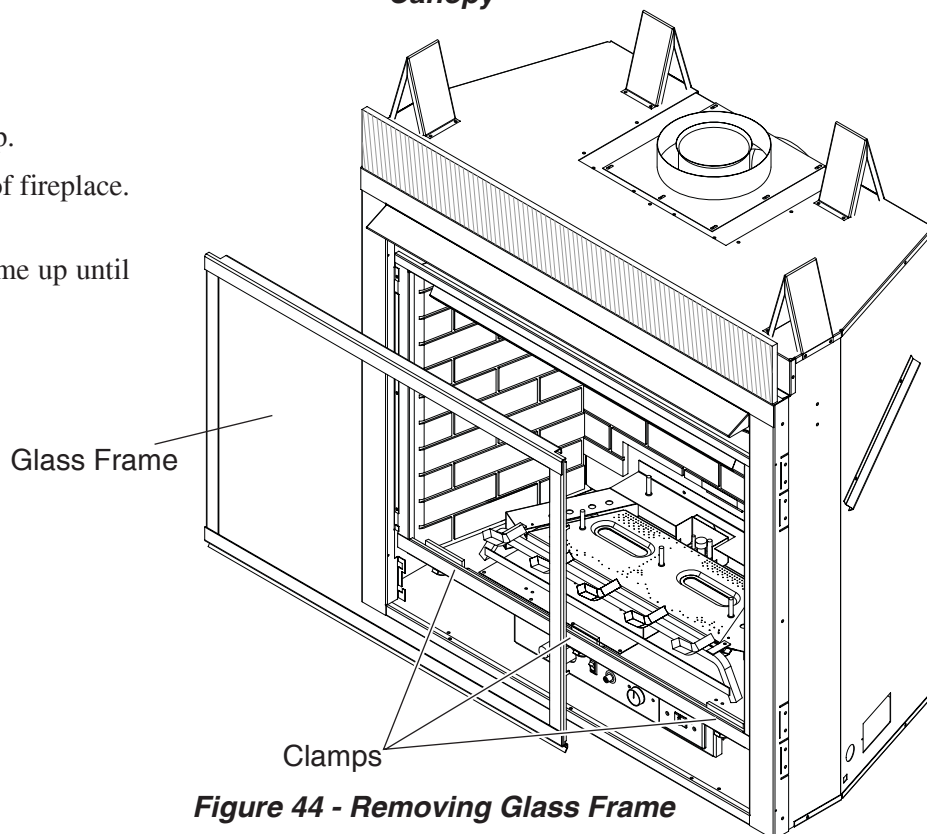

Figure 44 - Removing Glass Frame
2. Release three (3) clamps on bottom of fireplace. *See Figure 44.*